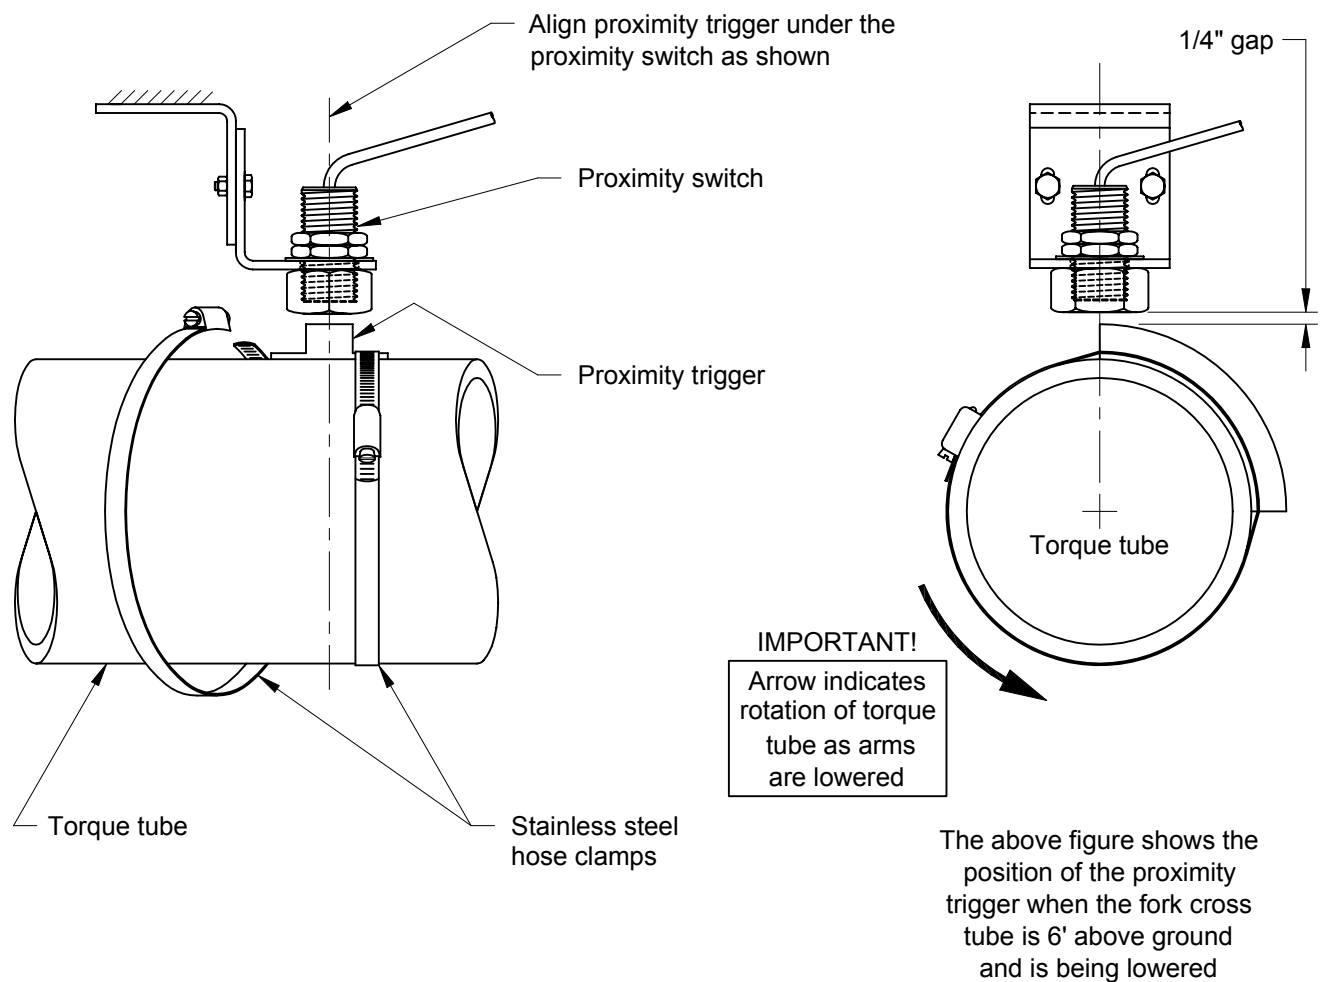

Figure 1-F
6. The proximity trigger will be mounted directly below the proximity switch on the torque tube. Clean off grease and debris from the torque tube in this area. Use the hose clamps to fasten the proximity trigger to the torque tube. Verify that the cross tube is six feet off the ground before final alignment. Align the trigger with the proximity switch and set up the final installed distances as shown in Figure 1-F.